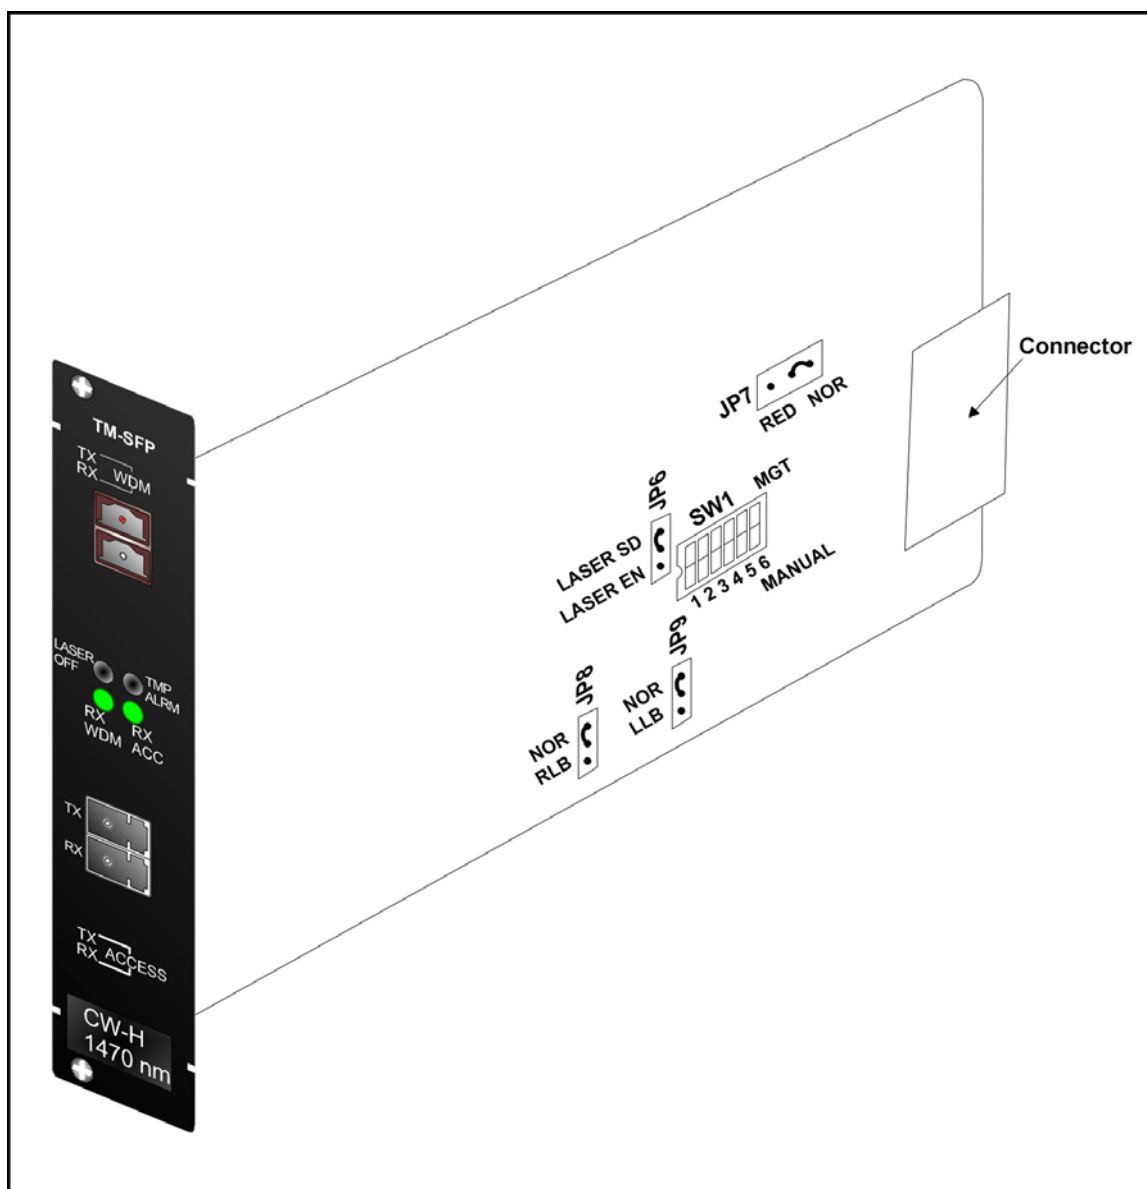

Figure 39: DIP Switch Location on TM-SFP Transponder Module
1. With the aid of *Figure 39*, locate Jumper **JP6** on the TM-SFP Transponder module and position it using *Table 6*.
2. With the aid of *Figure 39*, locate Jumper **JP7** and position it using *Table 7*.
3. With the aid of *Figure 39*, locate Jumper **JP8** and position it using *Table 8*.
4. With the aid of *Figure 39*, locate Jumper **JP9** and position it using *Table 9*.
5. With the aid of *Figure 39*, locate DIP switch **SW1** on the TM-SFP Transponder module. To enable configuration by *software*, set the DIP switch as shown in the *first* row of *Table 13*.